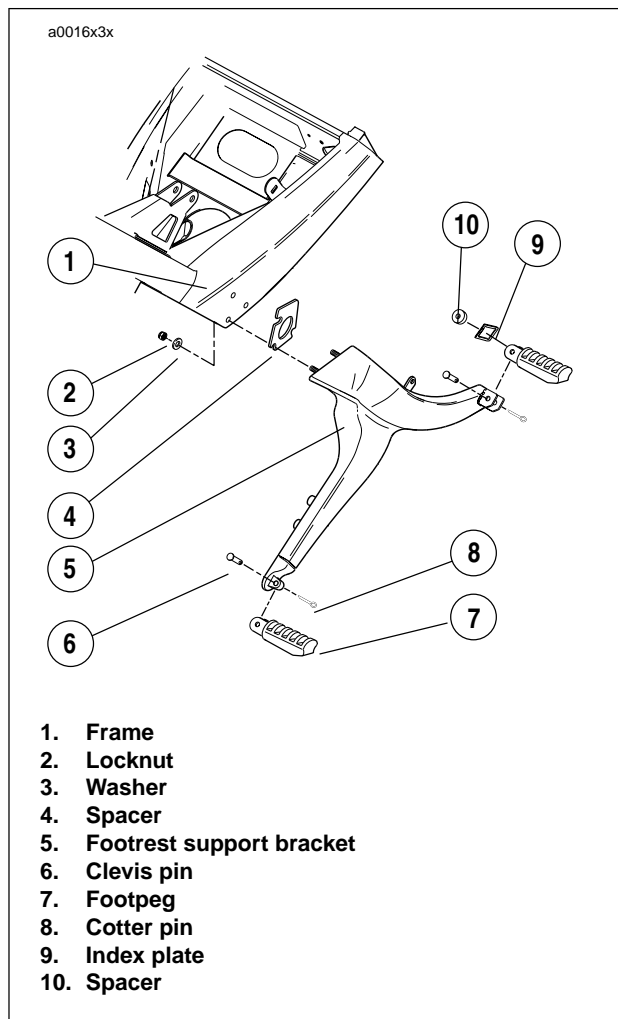

Figure 3-10. Footpeg Bracket Assembly
21. See Figure 3-10. Remove right side rider footpeg bracket assembly. See 2.22 FOOTPEGS AND FOOTPEG SUPPORT BRACKETS.